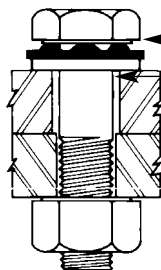

Figure 7b
*With a short-slotted or oversized hole under the bolt head or nut, add a hardened flat washer, and, if the bolt is an A490 and larger than 1" the hardened washers must be at least 5/16" thick. For a long-slotted hole, an external cover plate of sufficient size to completely cover the slot should be provided. (Figure 7b and 7c) See Table 6.1 of the RCSC Specification for detailed washer requirements.*